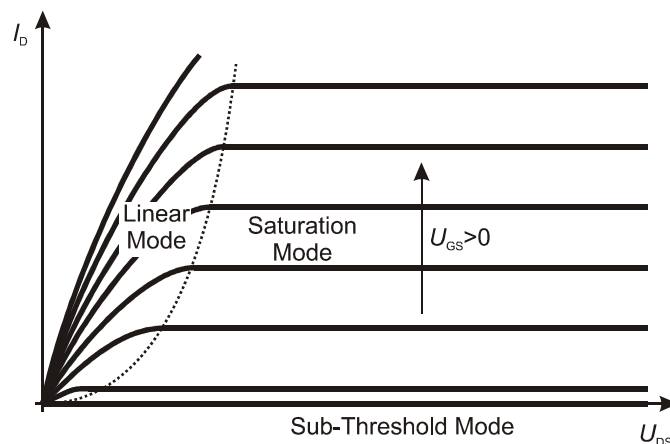

Fig. 5. Static forward output characteristic of an N-channel power MOSFET with operating modes tagged
- voltage axis scale U_{CE} (X) of 1 V: *Horizontal Volts/Div* [C7] = Collector 1 V,
- drain polarity with respect to the previously selected common terminal (source) appropriate for the forward blocking and conduction states of an N-channel MOSFET (see Fig. 5 if in doubt): *Polarity* [A4] = appropriate setting + (positive) or – (negative).
- (e) check (by pressing *Single [B8]*) whether the highest branch crosses the 4 A current level in linear mode (remember it is a MOSFET characteristic, see Fig. 5) but does not exceed 4,5–5 A; increase or decrease the collector supply amplitude appropriately (*Variable Collector Supply [A3]* knob) if needed;